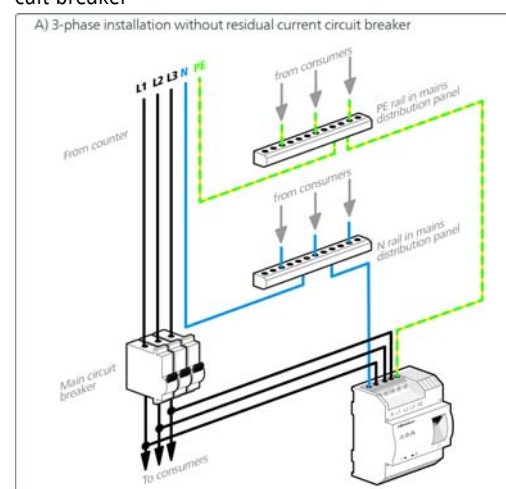

Fig. 5
- Three-phase connection: Neutral conductors and three external conductors are connected to terminals N, L1, L2 and L3. The device is supplied with power via terminals N and L1 (see Fig. 5).